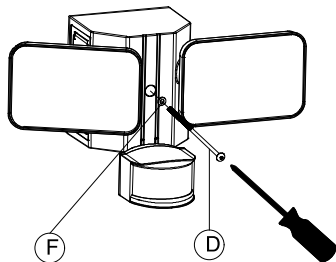

Figure 4
4. Install the LED luminaires on the mounting bracket using **fixture screws (D)** and **rubber gaskets (F)**. (See Figure 4)